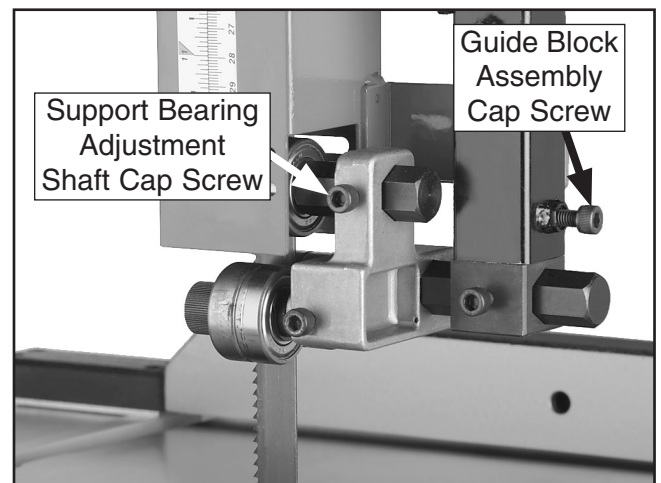

Figure 11. Upper support bearing controls.
- Familiarize yourself with the upper support bearing controls shown in **Figure 11**.